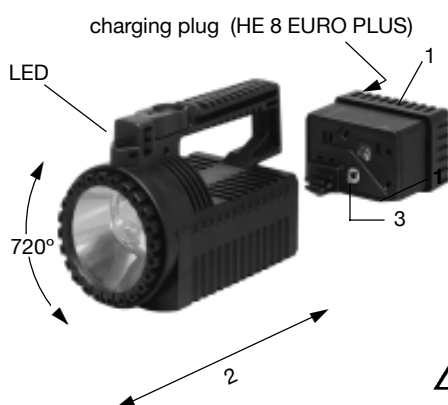

fig. 2
By turning the bezel ring about two times (fig. 2, item 2), the light can be focussed from wide beam to spot light.
2. Unscrew the hexagon socket head screw SW3 on the front of the handle (fig. 2).